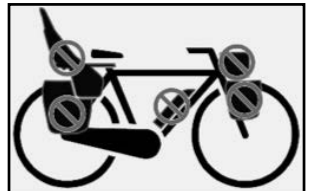

Figure 8: Parts which are at risk of being lost
- If any of the fastenings are loose, repeat the steps from Figures 8 to 11.